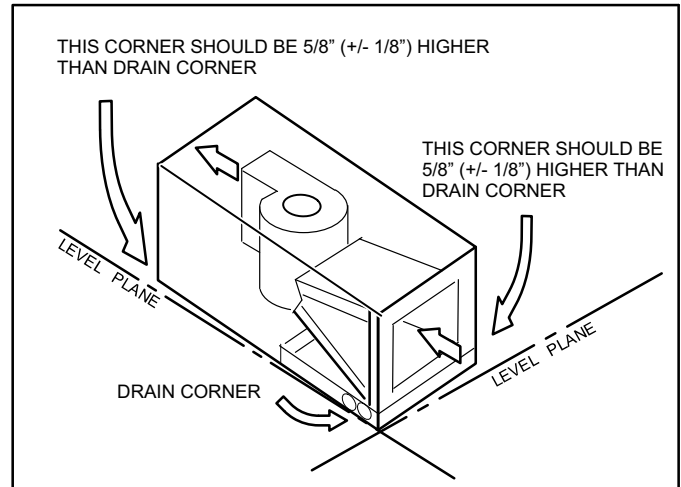

Figure 24. Sloping the Drain
3. Set unit so that it is sloped toward the drain pan end of the unit (see figure 24).
Make sure the unit is sloped (similar to the slope shown in figure 24) (horizontal or upflow) so that the drain pan will empty completely without water standing in the pan.